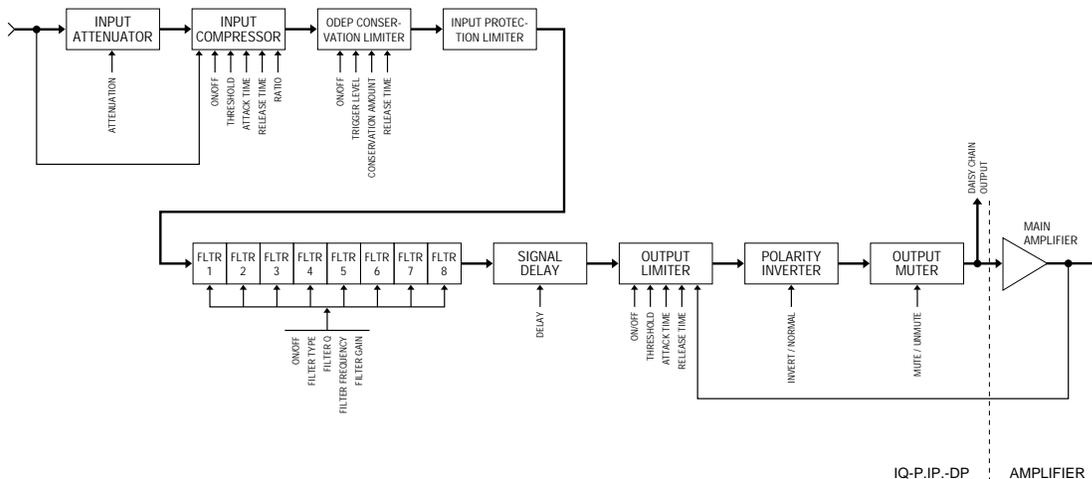

Fig. 5.2 *IQ-P.I.P.-DSP* Audio Signal Flow Block Diagram
5.1.2 Signal Flow Processing (see Figure 5.2)